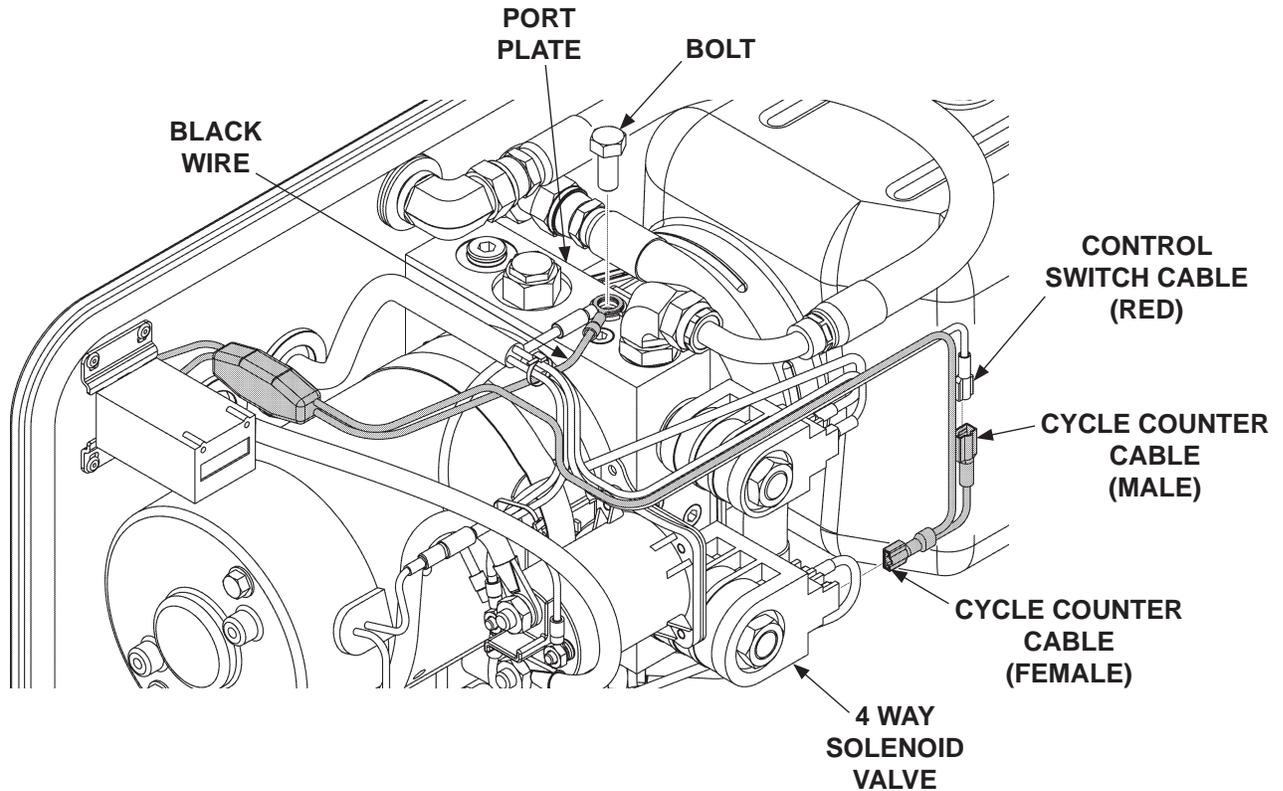

FIG. 4-1
5. Connect black wire from cycle counter to ground point on port plate as shown in FIG. 4-1.
6. Disconnect control switch cable (red) from 4 way solenoid valve. Connect cycle counter cable (male) to control switch cable (red) (FIG. 4-1). Connect cycle counter cable (female) to 4 way solenoid valve (FIG. 4-1).